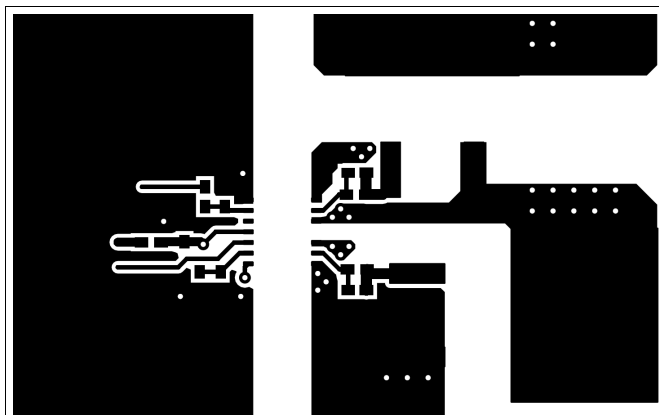
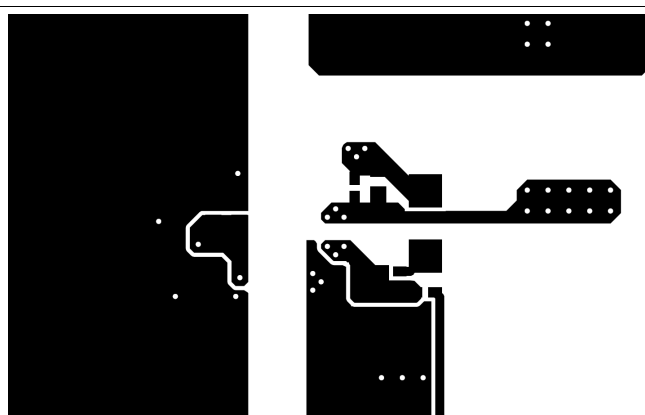

Figure 44. Top Layer Traces and Copper
Figure 45. Bottom Layer Traces and Copper
- Increasing the PCB copper connecting to VDDB, VSSA and VSSB pins is recommended, with priority on maximizing the connection to VSSA and VSSB (see Figure 44 and Figure 45). However, high voltage PCB considerations mentioned above must be maintained.